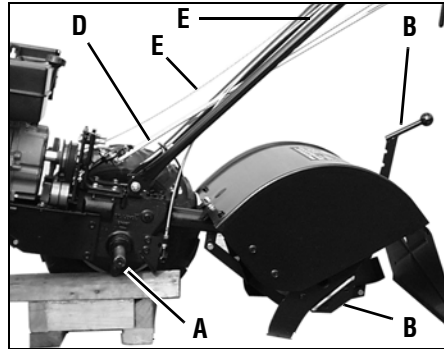

Figure 5-1
Proper lubrication of the tiller is an essential part of your maintenance program. After every 10 operating hours, oil or grease the lubrication points shown in Figures 5-1 and 5-2 and described below.
- Remove wheels and clean wheel shaft (A, Figure 5-1). Apply a thin coating of grease to shaft before reinstalling wheels.
- Grease back, front and sides of depth regulator lever (B, Figure 5-1).
- Remove tines and clean tine shafts (C, Figure 5-1). Inspect for rust, rough spots or burrs (especially around holes). File or sand smooth and coat ends of shaft with grease.
- Oil the threads on the handlebar height adjustment handle (D, Figure 5-1).
- Oil the outer casings of the engine throttle cable and the wheel gear cable (E, Figure 5-1). Allow oil to soak in and then wipe off any excess.